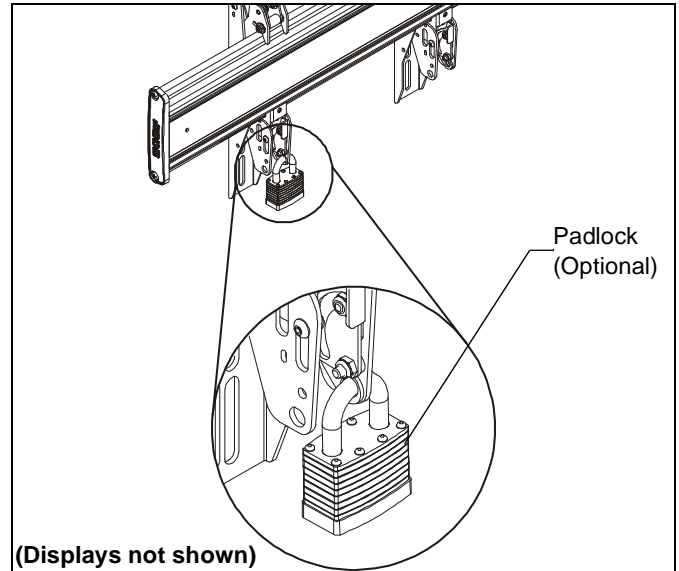

Figure 14
1. **OPTIONAL:** Add padlock (not included) to each interface bracket to lock display to menu board. (See Figure 14)